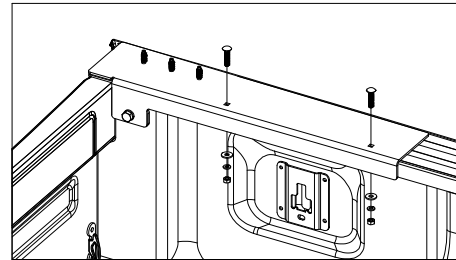

Figure B6.
4. **Install the carriage bolts.** Insert a 5/16" X 1-1/2" Carriage Bolt in each of the drilled holes and secure using a flat washer, lock washer and finish nut, see Figure B6. Tighten each nut to 18 ft-lbs.